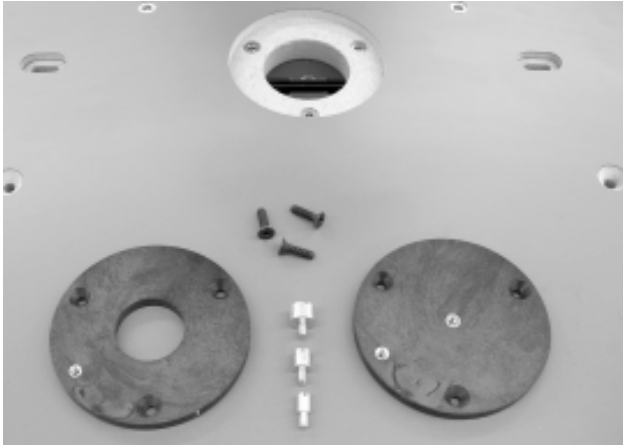

Figure 7. The two Table Inserts: Left insert for common routing operations – Right insert for pin routing.
There are 2 Table Inserts (60/61), see Fig. 7).
- The one on the left in Fig. 7 offers a 1-3/8" diameter round hole in the center and a brass threaded insert at its outer edge for a Starter Pin. This insert is used for most conventional, non pin-routing operations.